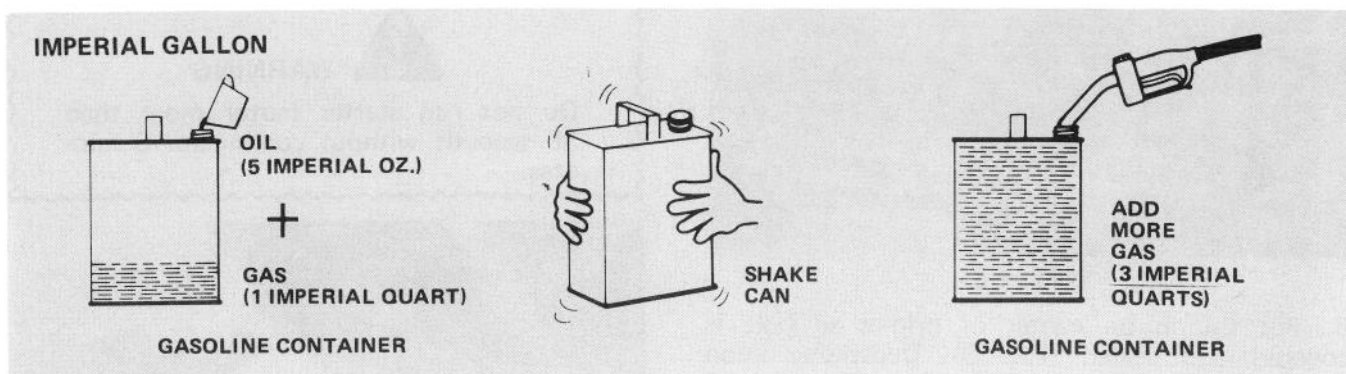

Figure 7B
1. Add 1 Imperial quart of leaded or unleaded REGULAR gasoline to a gasoline container (Fig. 7B).
2. Pour 5 Imperial oz. of two cycle engine oil into the gasoline container (Fig. 7B). DO NOT use multi-viscosity oils.
3. Shake the gasoline container vigorously so oil mixes with gasoline (Fig. 7B). Remember to install cap on gasoline container before shaking.
4. Add an additional 3 Imperial quarts of gasoline to the gasoline container (Fig. 7B).